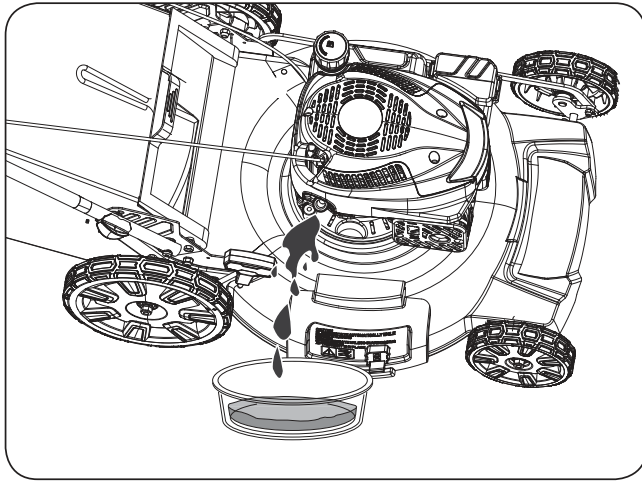

Figure 16
- Tip the machine onto its side (so that the air filter is up) to drain the used oil from the oil-fill tube. (See **Figure 16**)